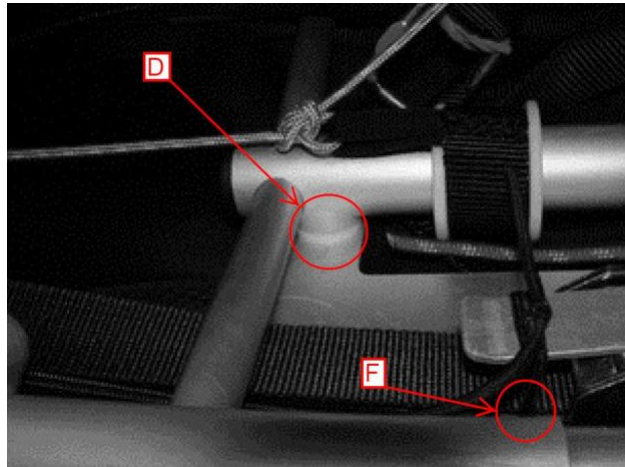

Figure 7
8. Install a pop rivet and washers (fig. 7) (D).
11. Drill two holes 6.5mm diameter for the lever hold-down rubber band. (fig. 7) (F).